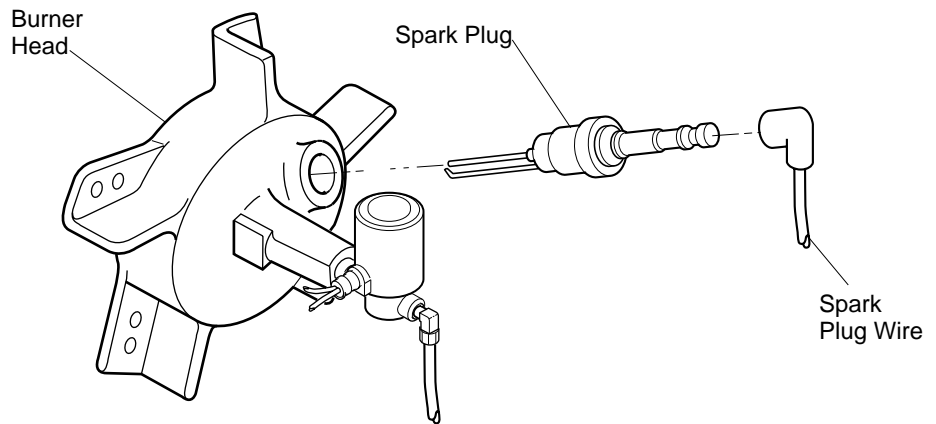

Figure 6 - Spark Plug Removal
2. Remove spark plug wire from spark plug (see Figure 6).
3. Remove spark plug from burner head using 13/16" open-end wrench (see Figure 6).